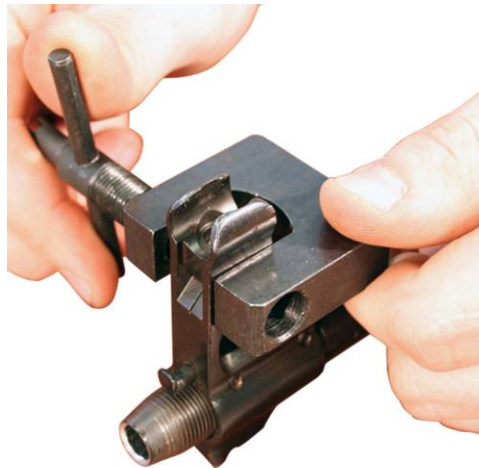

Figure 79. Installing the Windage Drum.
- a. Using the front sight adjustment tool, install the windage drum into the front sight base. Refer to Figure 79.